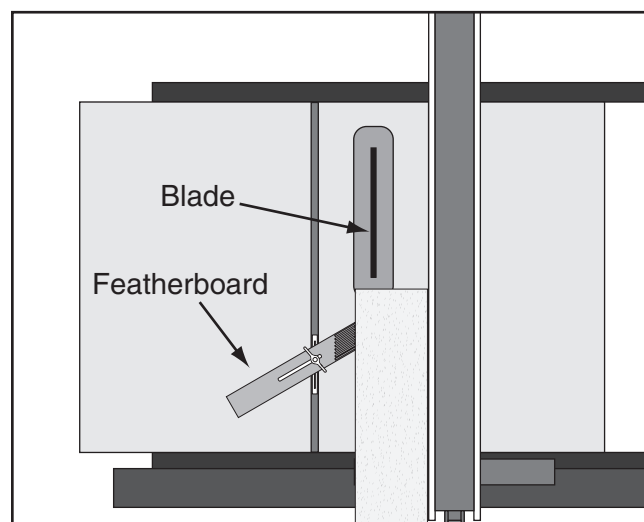

Figure 77. Featherboard installed in miter slot and supporting workpiece for ripping cut.
3. Slide featherboard miter bar into miter slot, making sure fingers slant toward blade, as shown in **Figure 77**.